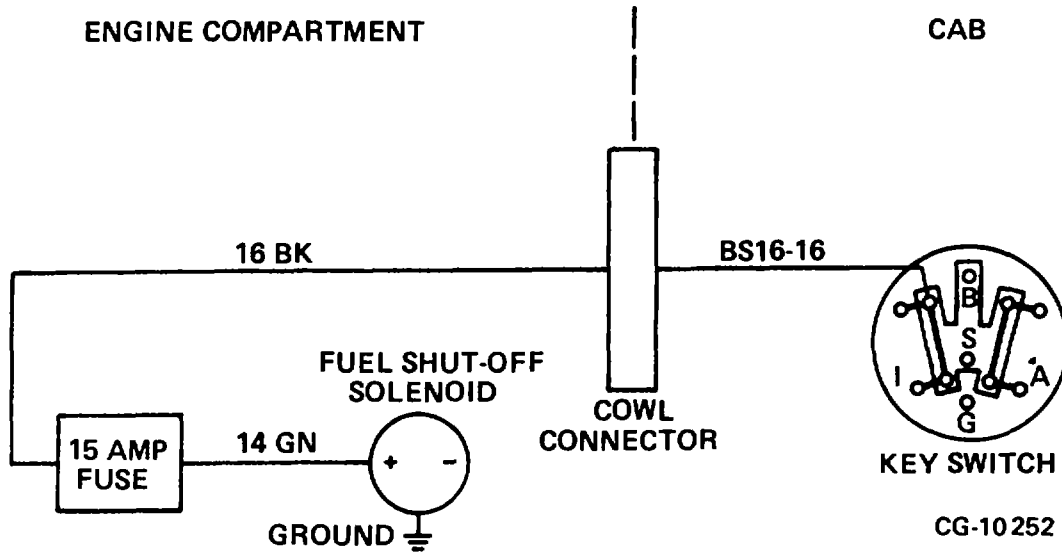

Figure 8. S-Series Electric Shut-Off Wiring
1. **Fuse** - Inspect electric shutoff solenoid fuse. If burned out, replace with a 15 amp fuse. Refer to Figure 8 for S-Series Wiring diagram and Figure 9 for Cargostar diagram.